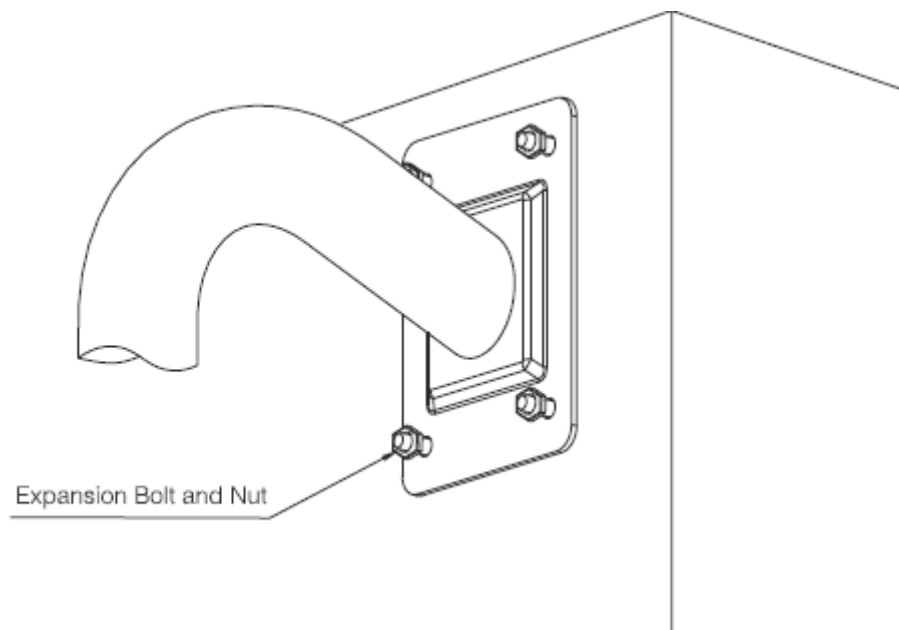

Figure 3-3
- 3) Dig holes in the wall according to the installation holes at the bottom of the wall mount bracket. Please make sure the cable exit of the bracket is facing the round hole of the wall. Insert expansion bolts (not provided) to the holes you just dug. Connect the composition cable and then pull it through the hole in the wall. Use four hex screws and flat washer to secure the bracket on the wall of the expansion bolts. See Figure 3-3.